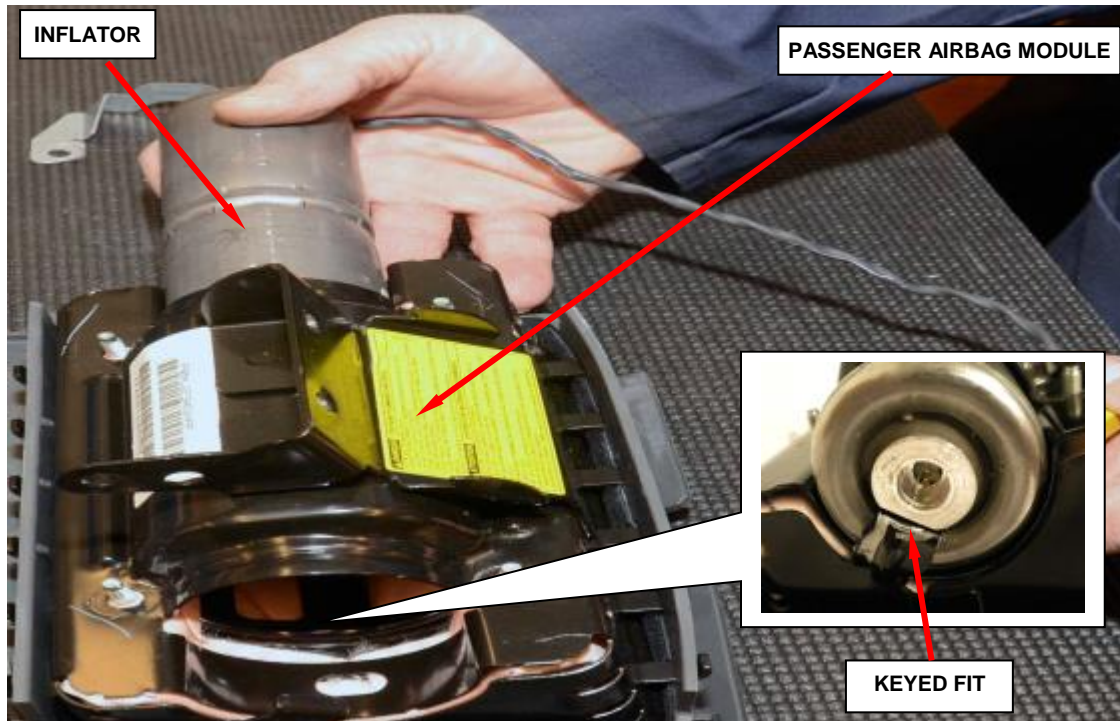

Figure 43 – Passenger Airbag Inflator to Housing
- f. Slide the inflator out of the passenger airbag module (Figure 43).
NOTE: The inflator’s key **MUST** line up with the housing’s key (Figure 43).
m. Slide the **new** inflator into the passenger airbag module (Figure 43).
NOTE: The inflator is keyed to fit into the housing (Figure 43).